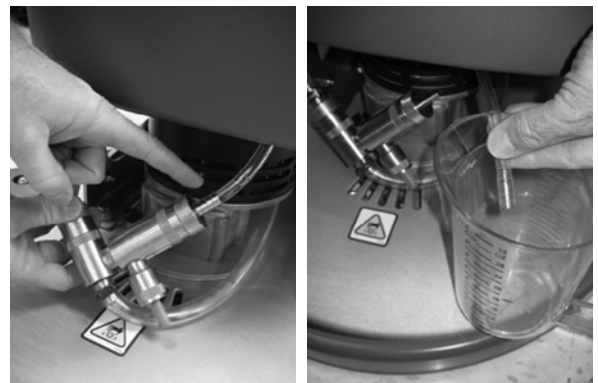

FIG. 70
3. Disconnect the opposite end of the FaST supply hose from the injector assembly and drain the detergent from the hose (Figure 70). Reconnect the hose after draining.